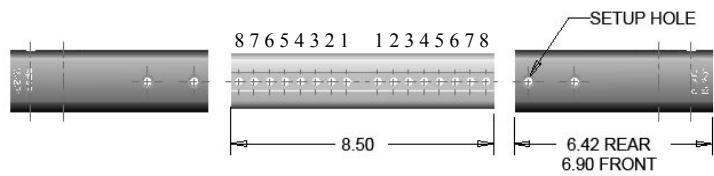

Figure 5b
1. Start with either the left side or right side of the wheelchair and remove four (4) 1/4-20 x 1.25" screws('C') and four(4) 1/4-20 nuts('E') from the seat frame('A') (2 in the front and 2 in the back) on the same side.
2. Proceed to the lower frame ('B') and remove four (4) 1/4-20 x 2.25" screws('D') and four (4) 1/4-20 nuts('E') (2 in the front and 2 in the back) on the same side.
4. Place the screws and nuts in their respective holes and hand tighten. The 1/4-20 x 1.25" screws attach to the seat frame while the 1/4-20 x 2.25" screws attach to the lower frame. **See Figure 5b and 5c for hole locations on the crossbar and seatframe.**
5. Now start with the side (either left or right) which remains to be adjusted and remove four (4) 1/4-20 x 1.25" screws('C') and four (4) 1/4-20 nuts('E') from the seat frame('A') as well as remove four (4) 1/4-20 x 2.25" screws('D') and four (4) 1/4-20 nuts ('E') from the lower frame.